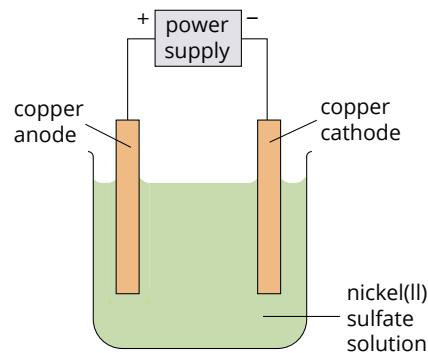

FIGURE 9.1.4 Electrolysis of nickel(II) sulfate solution using copper electrodes.
Use the electrochemical series to predict the products of the electrolysis of 1 M nickel(II) sulfate solution with copper electrodes at 25°C. A diagram of this electrolytic process is shown in Figure 9.1.4.